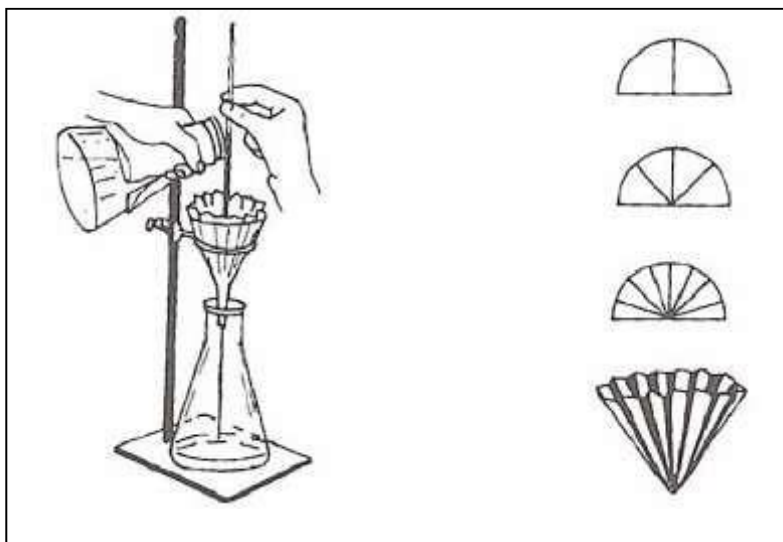

Figure 15. Rapid filtration of a hot solution using a fluted filter paper.
3. **Hot Filtration (Gravity Filtration).** Filtration of the hot solution is necessary to remove insoluble impurities. A fluted filter paper and a short-stem funnel (Figure 15) allow rapid filtration and avoid premature crystallization inside the stem and on the filter paper.